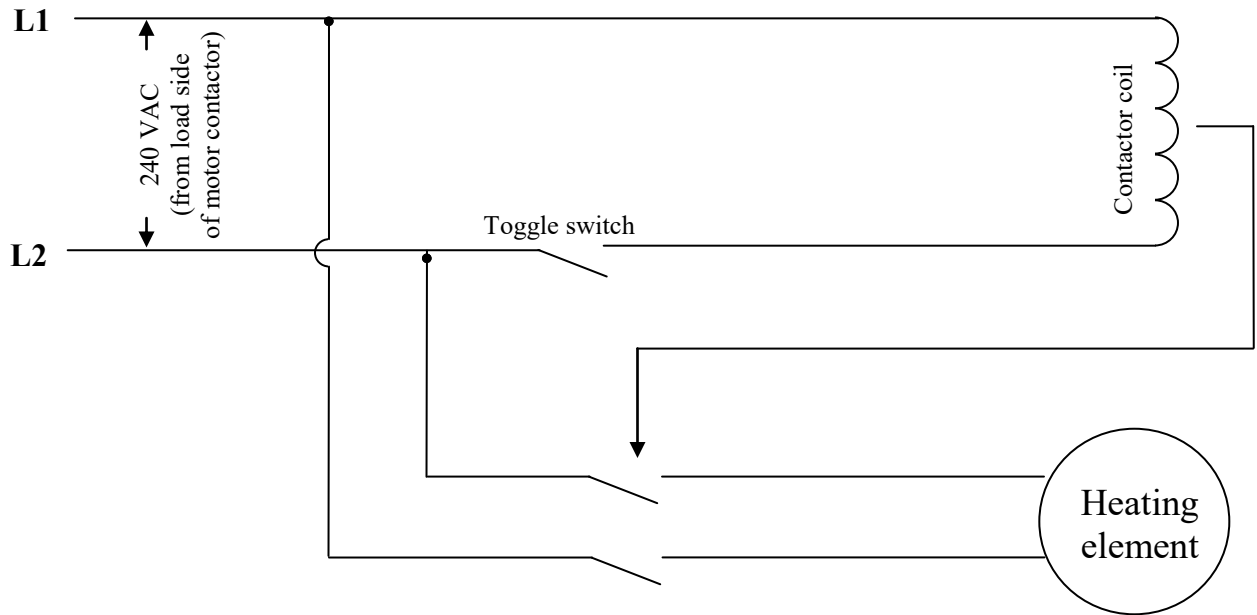

FIG 3 Aeration Controller Wiring
8. Connect the Aeration Controller to the existing fan control wiring as per Fig 3.